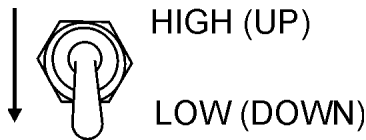

Figure 47. Engine Speed Switch (low)
6. Set engine speed switch to 'Low' (Figure 47).